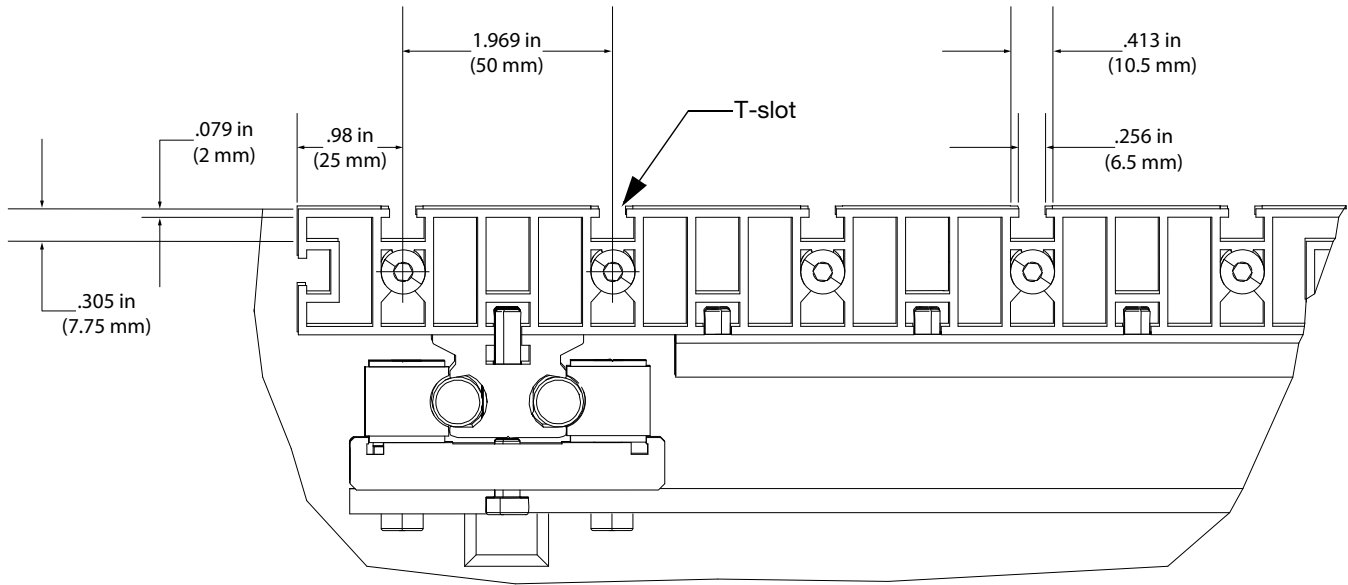

FIG. 21: C-300/C-500 Dispense Platform Dimensions
Figure 21 shows a cutaway section of the front view of the C-500 dispense platform with dimensions. The C-500 has (15) T-slots and the C-300 has (9) T-slots.